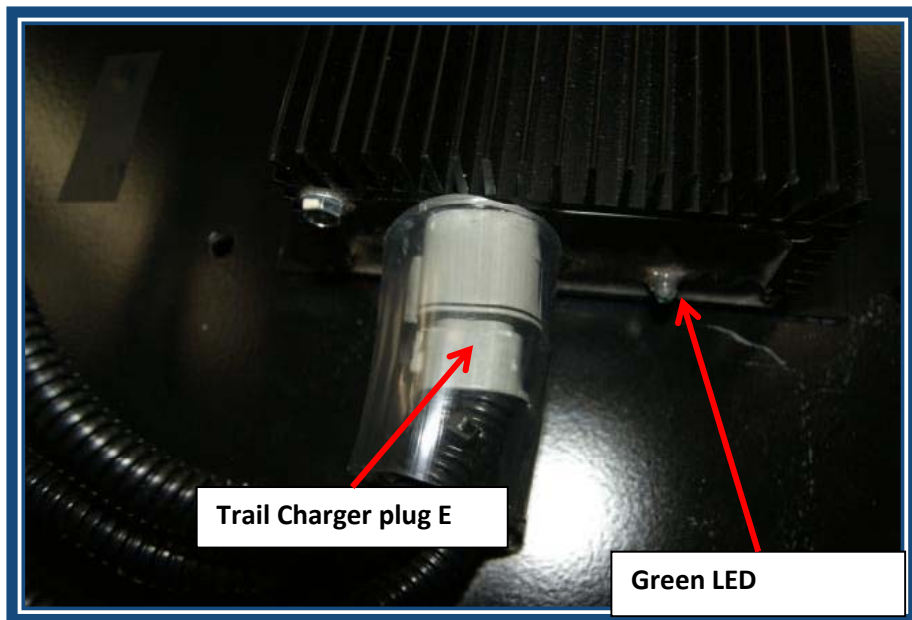

Figure 1
4. Remove the harness plug from the Trail Charger. (See Figure 1) Check the voltage reading at the input pin (C1) and the liftgate battery negative (H). This should be the same as the source voltage. (i.e. battery source at front of trailer, positive and negative of dual pole or single pole positive and frame ground.